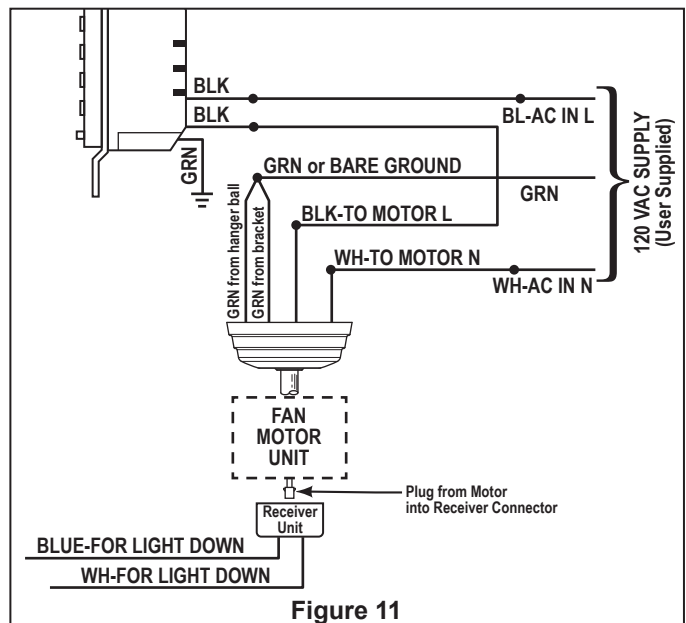

Figure 11
3. Wiring & Connecting Your Ceiling Fan: (Figure 11)